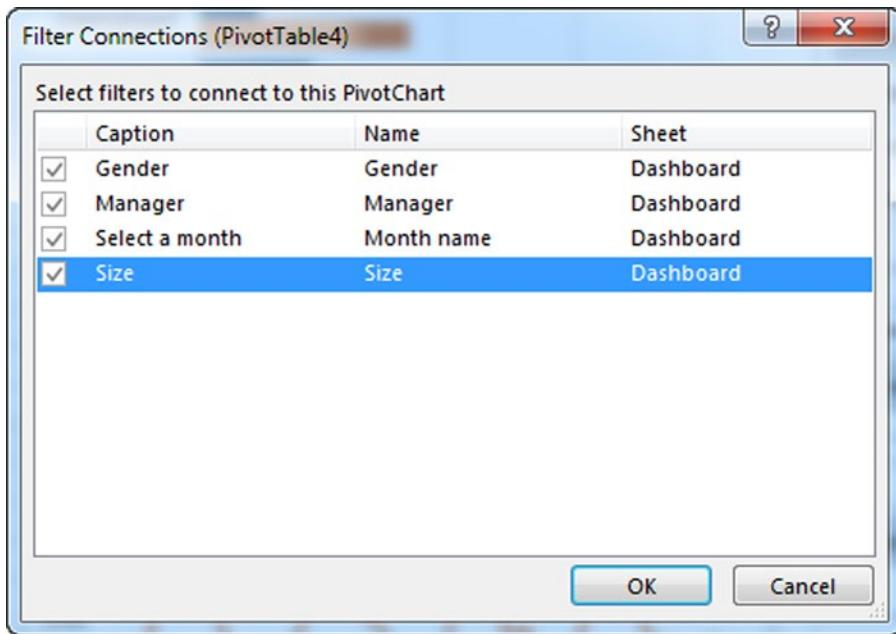

Figure 22-17. Linking each pivot table to all four slicers
3. Connect the pivot table to all four slicers by selecting the boxes (Figure 22-17).